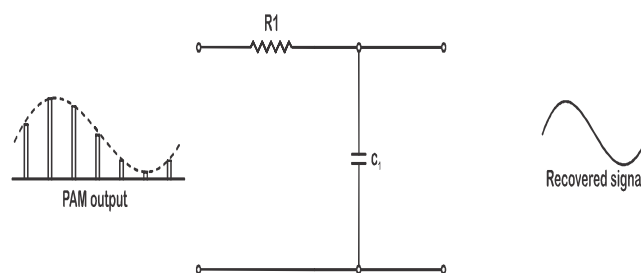

Fig.3.9 (b)
A process for generating PAM wave form is illustrated in fig 3.9.
- ❖ The block diagrams of fig 3.9 (a) shows a pulse generator triggering a mono stable multivibrator at an appropriate sampling frequency.
Demodulation is accomplished simply by passing the amplitude modulated pulse through a low pass filter. This process is illustrated in fig 3.9(b).
- ❖ The resistance  $R_1$  and Capacitance  $C_1$  shown in fig.3.9 form a potential divider.